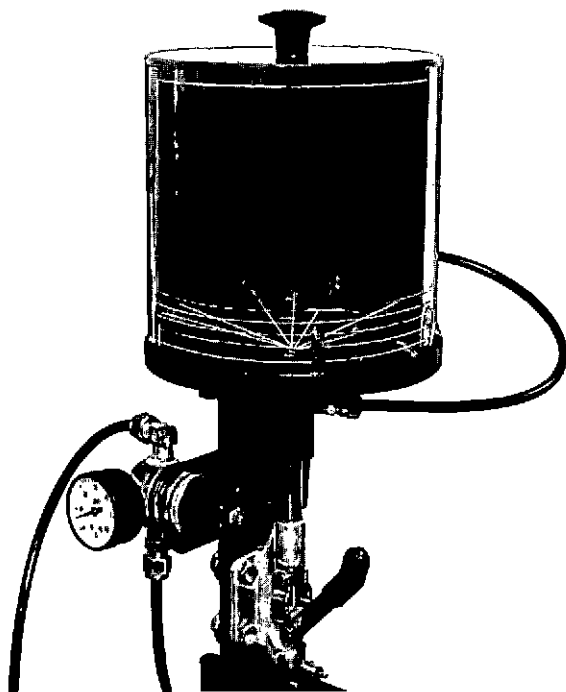

Fig. 2-29. Spray Tester in operation
4. Start the injector test stand. Adjust the pressure on the cup spray tester to 8-10 psi [55-69] kPa, Fig. 2-29.